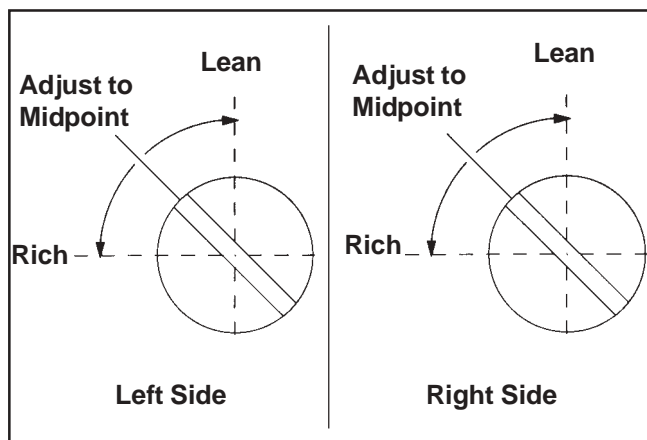

Figure 5-40. Optimum Low Idle Fuel Settings.
- a. Turn one of the low idle fuel adjusting needles out (counterclockwise) from the preliminary setting until the engine speed decreases (rich). Note the position of the needle. Now turn the adjusting needle in (clockwise). The engine speed may increase, then it will decrease as the needle is turned in (lean). Note the position of the needle. Set the adjusting needle midway between the rich and lean settings. See Figure 5-40.